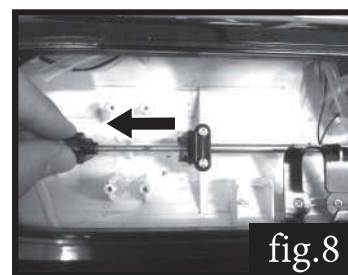

fig.8
8. Pull the main shaft to the left, fig. 8.